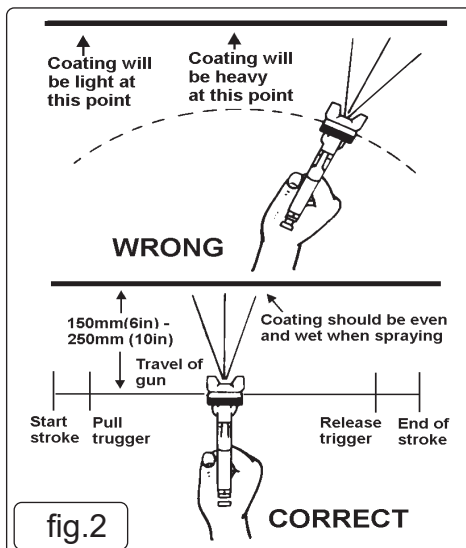

fig.2
- 5.1. For best results, handle the gun correctly. It should be held perpendicular to the surface being sprayed and moved parallel to it. Start the stroke before squeezing the trigger and release the trigger before finishing the stroke. This will give more accurate control of the gun and the material (fig 2).